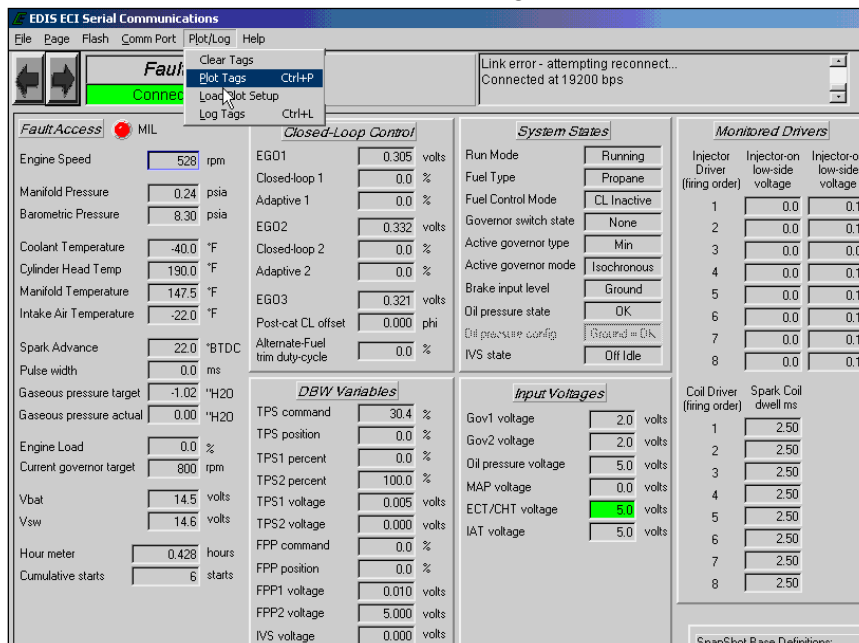
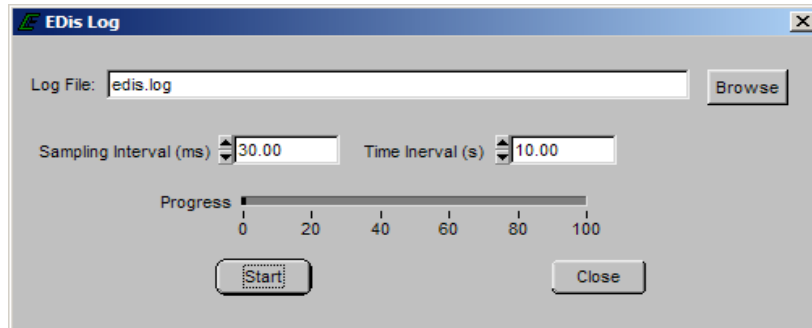

Figure 6
Figure 9: DST Log Interface
Once the variables have been tagged as highlighted by the green color fill, select the "Plot/Log" function in the top menu bar as shown below in figure 6.
Another data capture function incorporated in the software is the DST logger. This tool serves as a PC data logger for any variable available in the ECM through the interface software. Figure 9 shows the interface display for configuring the DST Log. The interface allows the user to create the filename, set the sample rate for acquisition, set the time interval for sampling, and display the progress of acquisition. A maximum of twenty (20) variables may be tagged for the log. The amount of data stored is only limited by available PC RAM. The resulting text file may then be viewed by any standard Windows text editor/reader program. To create a log file select the “Log Tags” in the drop down menu as shown in figure 6.